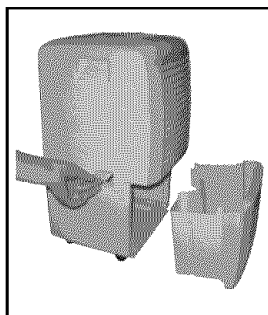

fig.1
- c. Lift up the side flap located on the left side of the unit as looking from the front. (fig.1)